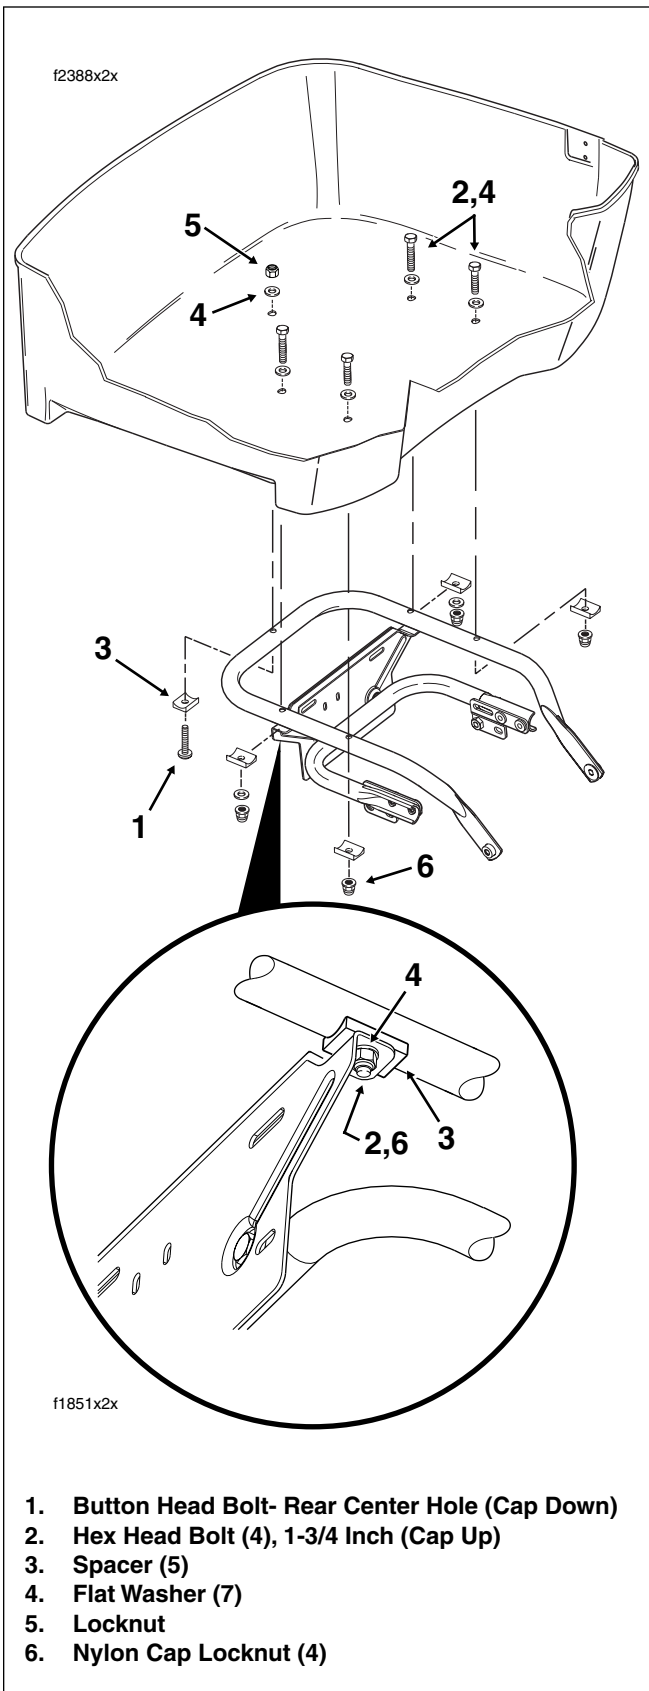

Figure 2-146. Install Tour-Pak Mounting Bolts
7. Holding button head bolt at rear center hole, remove locknut (and flat washer) from inside Tour-Pak to release Tour-Pak from luggage rack. Be sure to have a firm grasp on the Tour-Pak as the bolt is removed. See Figure 2-146.
and tabs of license plate bracket. If necessary, loosen two hex head bolts at back of license plate bracket to align holes in tabs with bolts. Install flat washers and nylon cap locknuts on bolts and tighten until snug. See inset of Figure 2-146.
13. Holding button head bolt at rear center hole, remove locknut (and flat washer) from inside Tour-Pak to release Tour-Pak from luggage rack. Be sure to have a firm grasp on the Tour-Pak as the bolt is removed. See Figure 2-146.
4. Position two spacers between bottom of luggage rack and tabs of license plate bracket. Slide two hex head bolts (with flat washers) through two center holes in Tour-Pak and luggage rack, and then through spacers and tabs of license plate bracket. If necessary, loosen two hex head bolts at back of license plate bracket to align holes in tabs with bolts. Install flat washers and nylon cap locknuts on bolts and tighten until snug. See inset of Figure 2-146.
4. Holding button head bolt at rear center hole, remove locknut (and flat washer) from inside Tour-Pak to release Tour-Pak from luggage rack. Be sure to have a firm grasp on the Tour-Pak as the bolt is removed. See Figure 2-146.
hex head bolts (with flat washers) through two center holes in Tour-Pak and luggage rack, and then through spacers and tabs of license plate bracket. Install flat washers and nylon cap locknuts on bolts and tighten until snug. See inset of Figure 2-146.